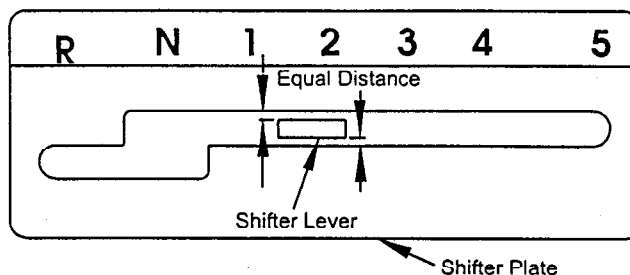

FIG. 6
- b) Shift lever to second gear and check alignment of lever in slot of shifter plate. Clearance between top of lever and the top of the slot should be about equal to the clearance between bottom of the lever and the bottom of the slot (See Figure 6). If it is not, remove lever and bend it slightly to adjust. *DO NOT* bend lever while it is attached to transmission. Reinstall lever and tighten hardware.